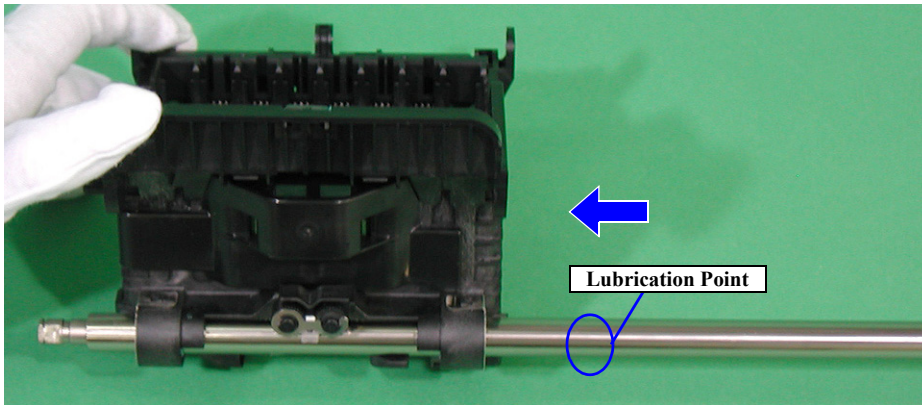

Figure 8-47. Carriage Shaft lubrication (4)
6. Lubricate the grease using a syringe at the point shown in Figure 8-47.